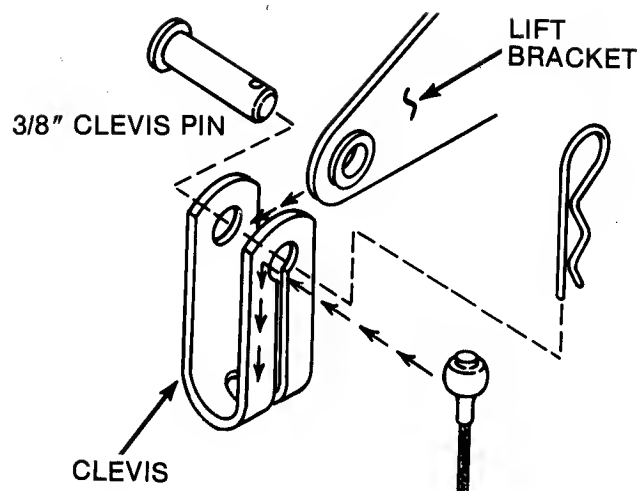

FIGURE 21 - FRONT LIFT BRACKET
6. Slip ball end of cable attached to front lift arm into slot in the clevis then attach the clevis to the lift lever bracket with small clevis pin and small hairpin. (Fig. 21)